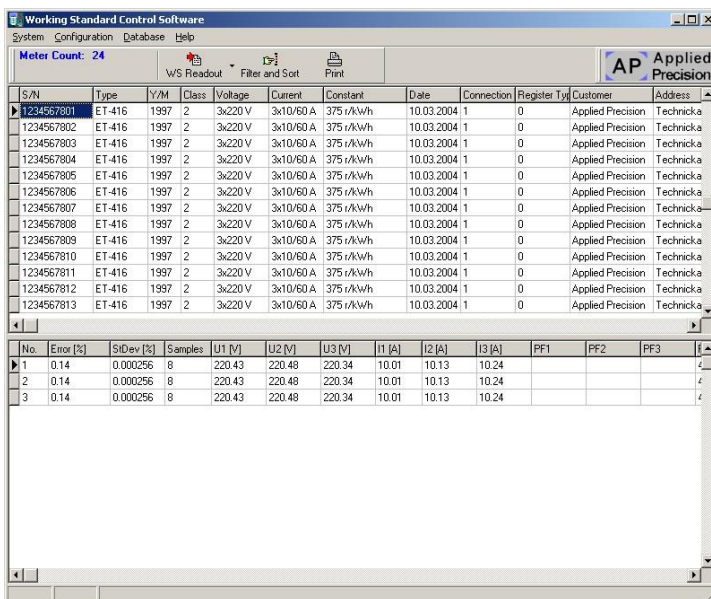

Fig. 1 - Main program window
- Select menu item *Configuration / Parameters* from the main program window (Fig. 1) for displaying communication parameters settings window (Fig. 2)